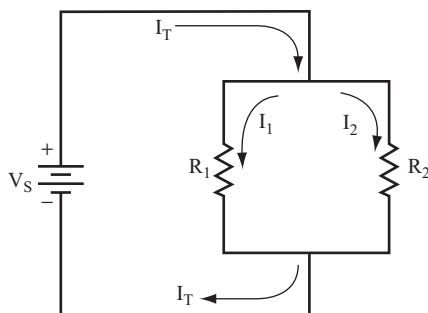

FIGURE 1.9
**27** In the circuit shown in Figure 1.9, the current splits or divides between the two resistors that are connected in parallel.